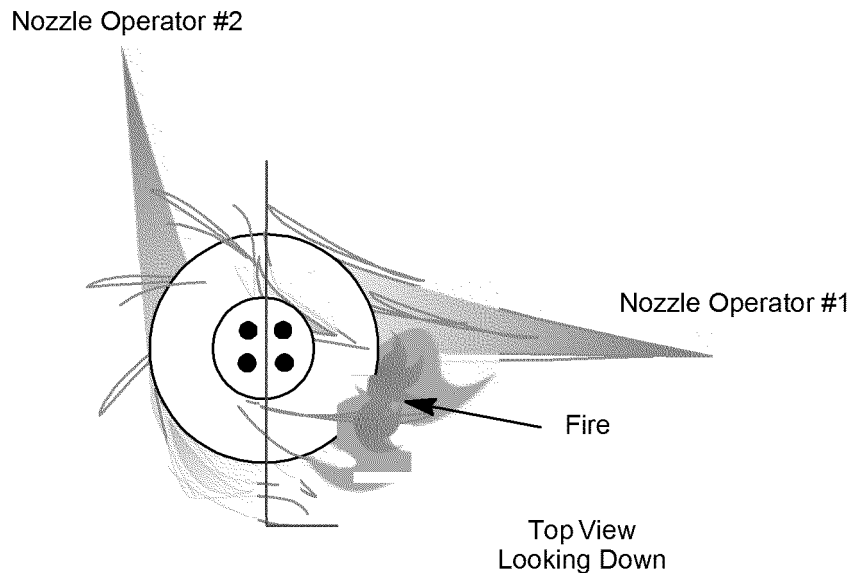

Figure 5-5
- E. In Figure 5-5 below, the nozzles are positioned approximately 100° apart. Using this displacement may leave contamination on the surface providing a conductive path to ground. If, due to obstructions and overspray, it is necessary to wash from these angles, backwash immediately to remove all contaminants.